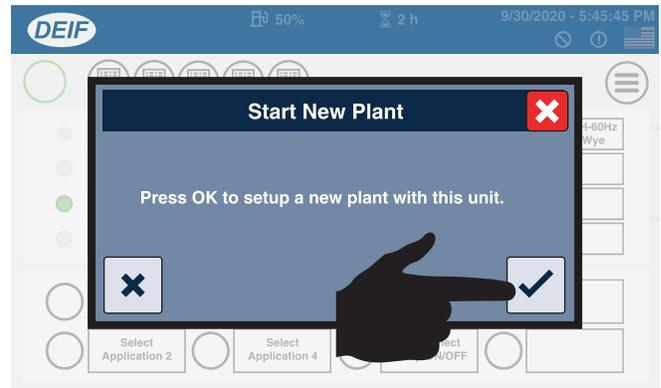

Figure 126. Start New Plant Screen
- After the application has been received, verify that the **Start New Plant** screen is displayed (Figure 126), then press the **OK** button.